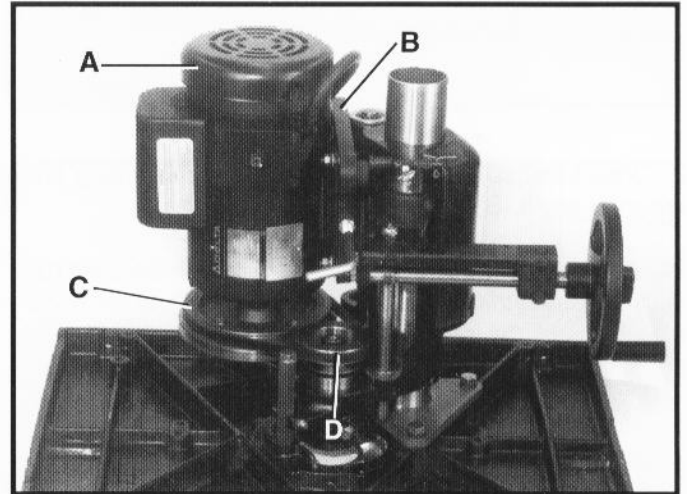

Fig. 2
3. Assemble the motor (A) Fig. 2, to the mounting plate (B) as shown.
4. Assemble the 41-106 two-speed motor pulley (C), to the motor shaft. Place a straight edge across motor pulley (C) Fig. 2, and spindle pulley (D), and align the motor pulley to the spindle pulley. Tighten two set screws in the motor pulley (C), against the key in the motor shaft.